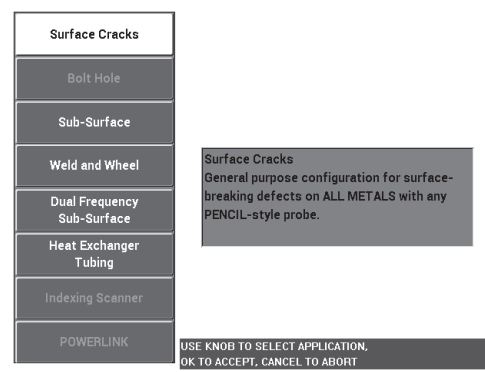

Figure 5-91 The Surface Cracks application
- 2. Press the ADV SETUP menu key () once, and then select **APPL SELECT** (A key) to open the application selection menu. Select **Surface Cracks** with the knob, then press  to accept (see Figure 5-91 on page 192).